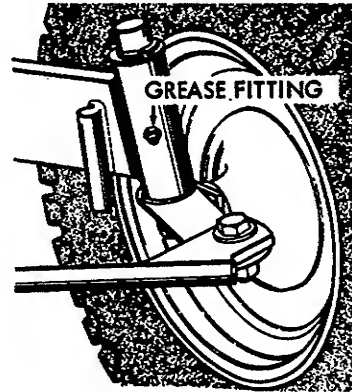

Figure 5
- (2) Front Spindles - Figure 5.